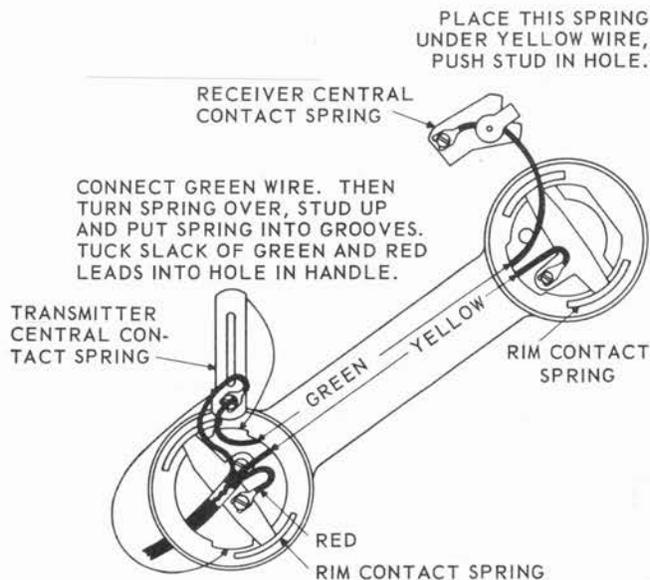

Figure 5. Internal Wiring for Type 81 Handset.
spring and disconnect the green and red leads (see Figures 5 and 6).
- (5) Loosen the strain relief clamp screw and free the clamp.
- (6) Loosen the terminal screws at the receiver end (see Figures 5 and 6) and remove the cord lead.
- (7) Pull out the old cord and feed the leads of the new cord through the entrance hole in the transmitter end of the handset. Feed the leads that must be connected at the receiver end through the handset handle and into the receiver cavity.
ter central contact spring and receiver central contact spring (as shown in Figure 5). This wire must be removed. The green lead of the replacement handset cord (3HA6) is of sufficient length to reach the receiver cavity and has two spade terminals so that it can be connected at both the transmitter central contact spring and receiver central contact spring.